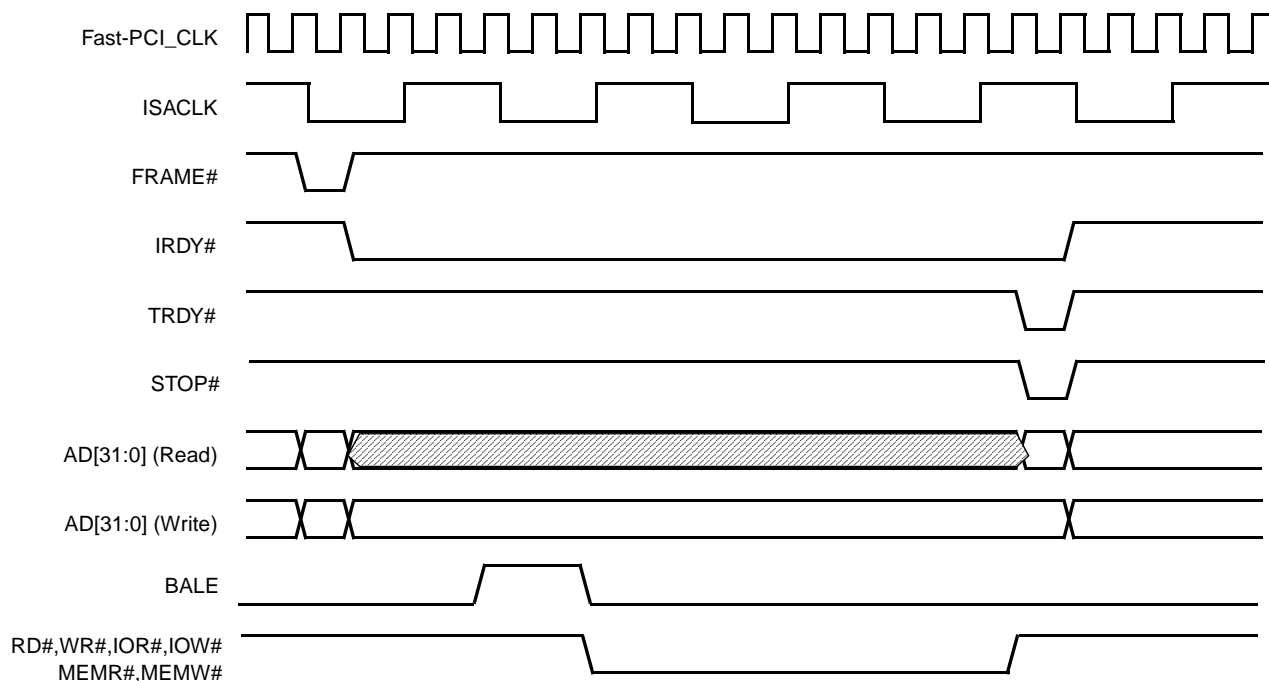

Figure 5-2. Non-Posted Fast-PCI to ISA Access
Figure 5-2 shows the relationship between a PCI cycle and the corresponding ISA cycle generated.
**Note:** Not all signals described in Figure 5-2 are available externally. See Section 2.4.7 "Sub-ISA Interface Signals" on page 66 for more information about which Sub-ISA signals are externally available on the SC2200.